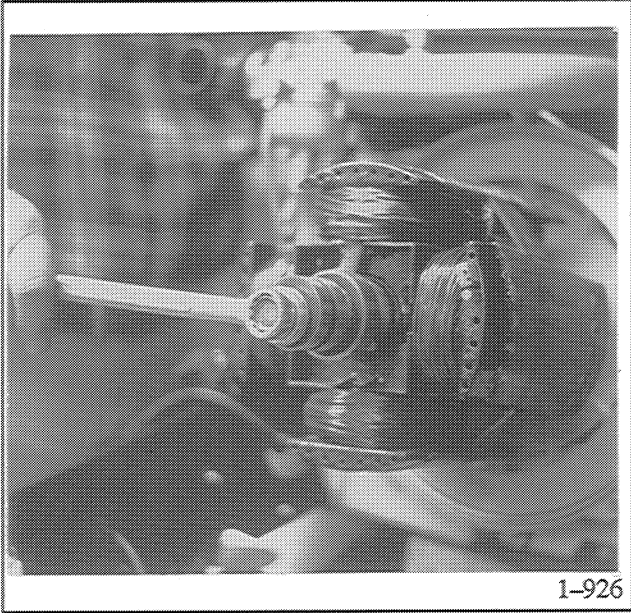

Figure 8-25. Loosening Rotor Thru-Bolt
30. Loosen thru-bolt 2-3 turns leaving an 1/8 in. (3 mm) gap between bolt and rotor using a 3/4 in. socket wrench. Use a strap wrench on rotor windings and socket wrench on thru-bolt (or place wrench on thru-bolt and strike wrench with lead hammer using a medium force blow) to loosen thru-bolt. See Figure 8-25.